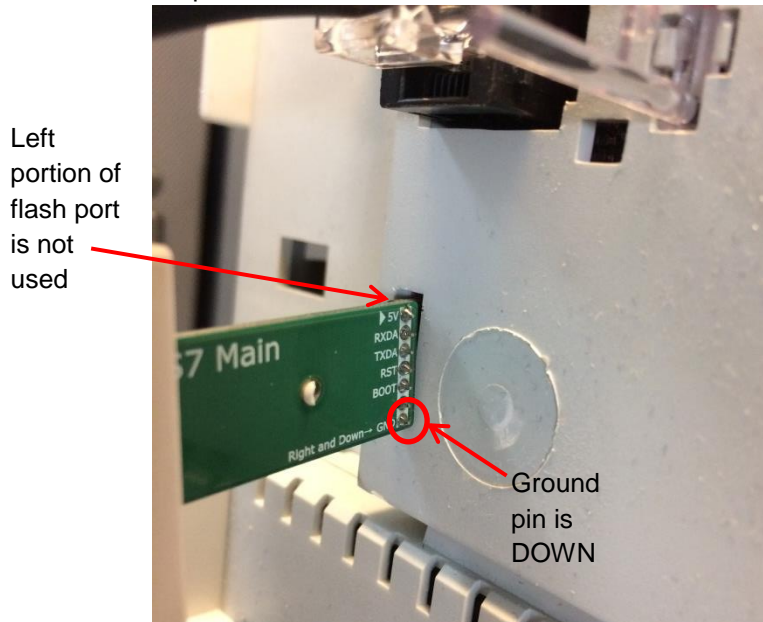

Figure 6
- h. Connect the “iS7 Main” Gender to the VFD flash port. Take note that the Gender connection direction and placement must be correct. This is printed on the Gender board and also explained in Figure 6 below. The GND pin should be on the bottom and all 7 pins should be plugged in to the right side of the flash port.